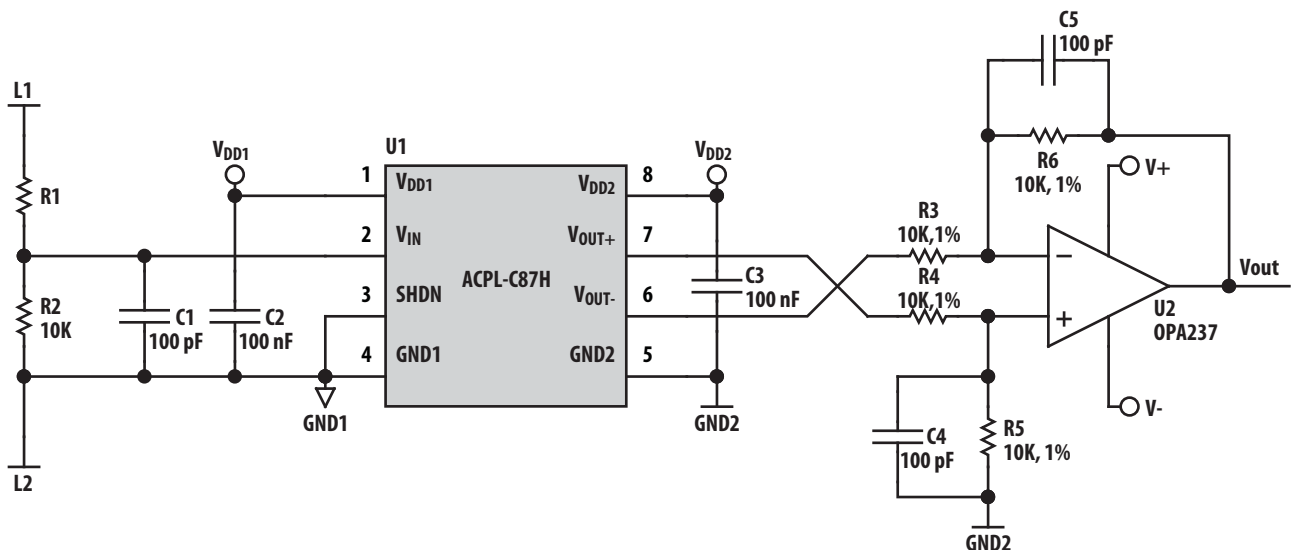
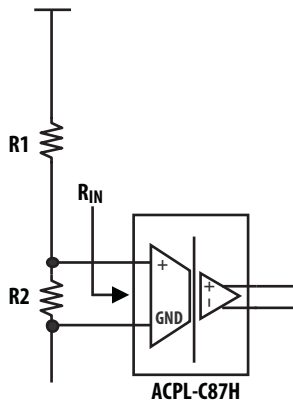

Figure 19. Typical application circuit.
Figure 20. Simplified Input Stage.
The typical application circuit is shown in Figure 19. The ACPL-C87H voltage sensor is often used in photovoltaic (PV) panel voltage measurement and tracking in PV inverters, and DC bus voltage monitoring in motor drivers. The high voltage across rails needs to be scaled down to fit the input range of the iso-amp by choosing R1 and R2 values according to appropriate ratio.
The input stage of the typical application circuit in Figure 19 can be simplified as the diagram shown in Figure 20. R_2 and R_{IN} , input resistance of the ACPL-C87H, create a current divider that results in an additional measurement error component that will add on to the tot on top of the device gain error. With the assumption that R_1 and R_{IN} have a much higher value than R_2 , the resulting error can be estimated to be R_2/R_{IN} .